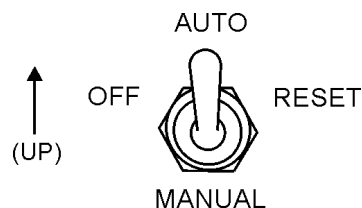

Figure 56. Off/Manual Auto Switch (AUTO)
4. Place the Off/Manual/Auto switch (Figure 56) in the **AUTO** position (up).